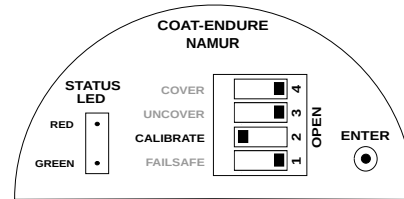

Figure 46: Calibration Switch Position
- To start the calibration process, set the CALIBRATE switch to CLOSE (Opposite of OPEN in a DIP switch) position as shown in Figure 46.
- Set the CALIBRATE switch to CLOSE (Opposite of OPEN in a DIP switch) position as shown in Figure 46.